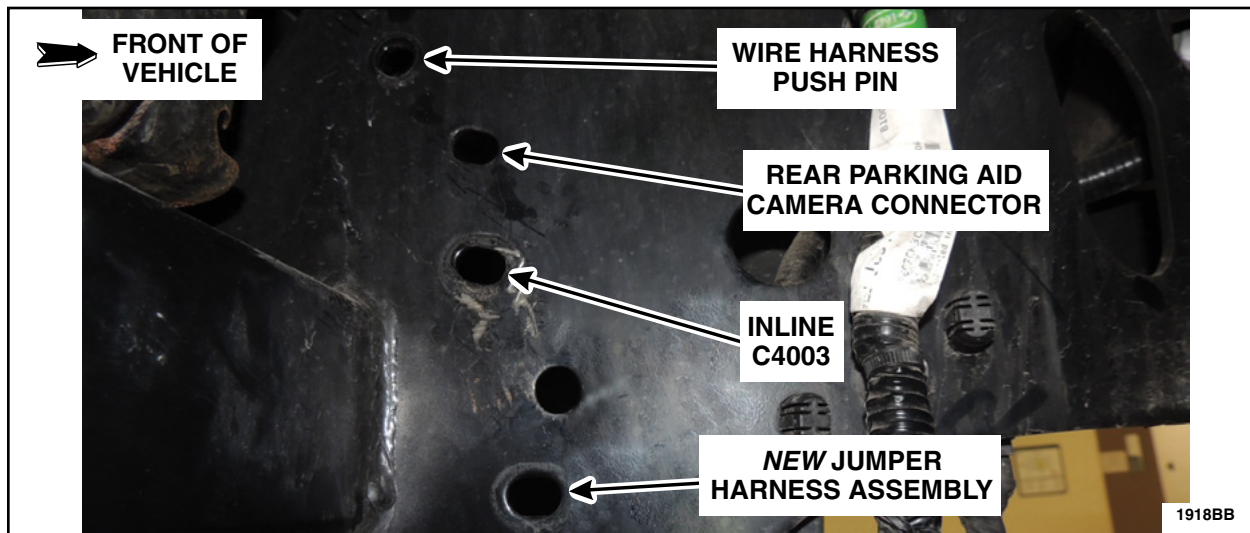

FIGURE 25
30. Attach the rear parking aid camera connector, the inline C4003 and the *new* jumper pigtail assembly push pin retainers into the vehicle frame in the specified locations. Install the *new* push pin tie strap into the frame. Position the male side of the C4003 harness over the tie strap. Secure the tie strap around the harness and trim any excess length of the tie strap. See Figures 25 and 26.